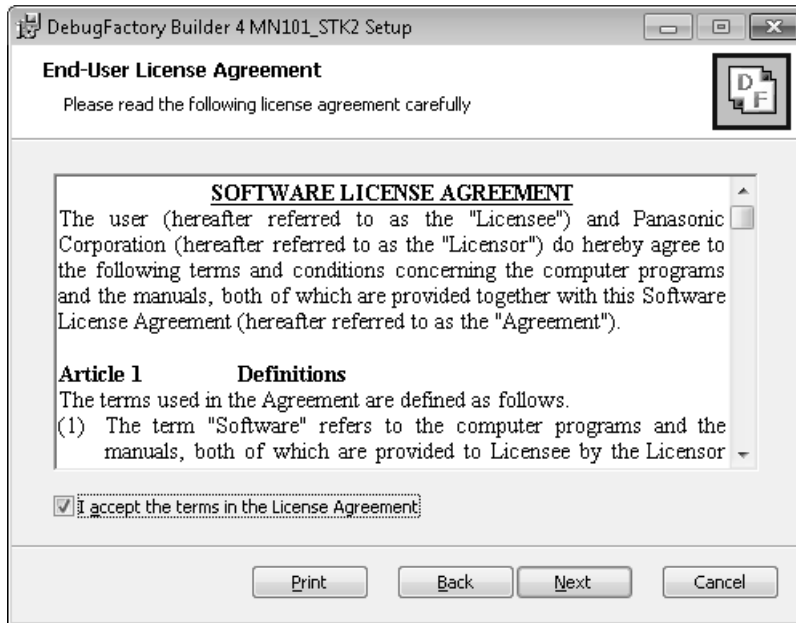

Figure 2.1.4 Licence agreement of AM13L_STK2
4. The dialog shown in Figure 2.1.4 appears. Confirm the software license agreement, and click <Next>.